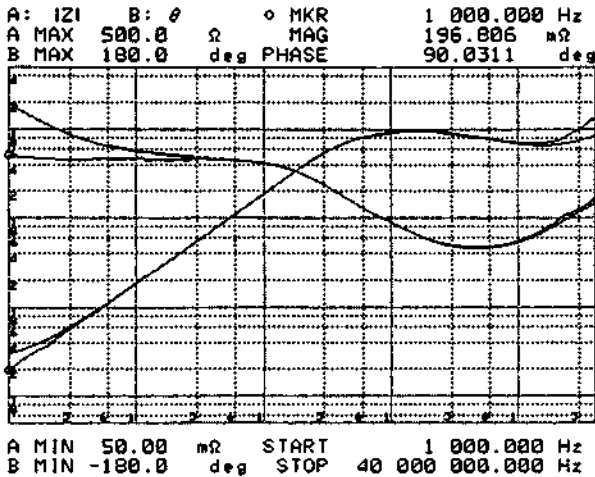

Figure 2 Comparison between the HP 16047C and the circuit
- 3) Compare the results of both 1) and 2). (Refer to Figure 2.)